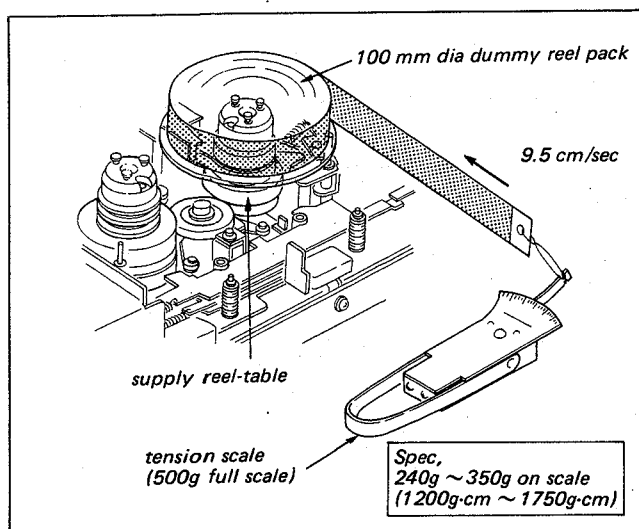

Fig. 5-7. Rewind torque adj. (REW mode)
- 4. Hook a tension scale (500 g full scale) (Jig Ref. No. J-18) on an end of tape and let the tape be pulled at the constant speed of approx. 9.5 cm/sec as shown in Fig. 5-7.